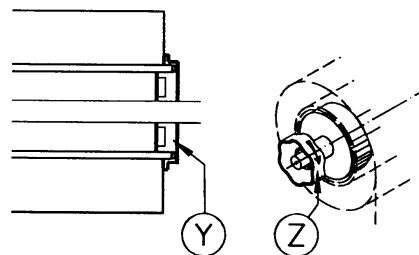

Figure 3-3
Slide the film roll onto the Bobbin until the roll edge engages the core reference disk (Y) at the back of the machine in Figure 3-3. You may need to lift the film roll in the rear to properly position the core.